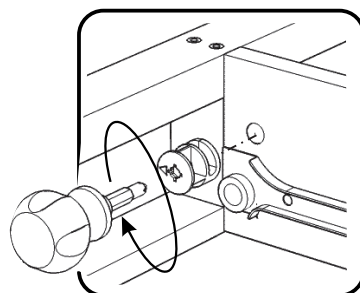

Figure 2
Attach Divider (E) to Front Frame (D) with Cam Lock. (See Figure 2)